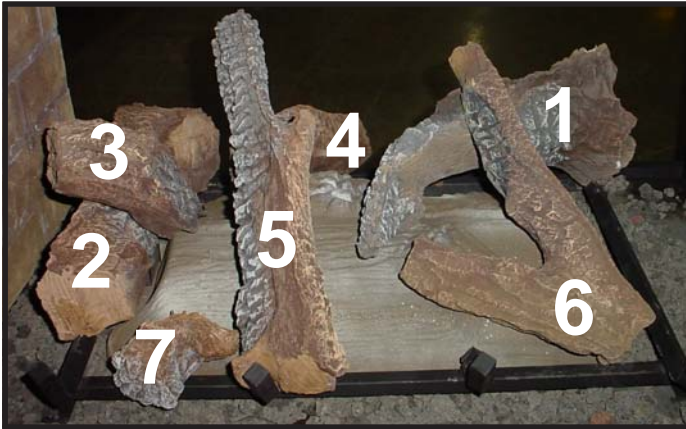

Figure 9.2 Placement of Ember Materials
- When placing Glowing Embers[®] onto the burner care should be taken so that the ports are not covered. Place the dime-size ember pieces just in front of the port trail, but not on or in between the ports (see Figure 9.2). Failure to follow this procedure will likely cause lighting and sooting problems.